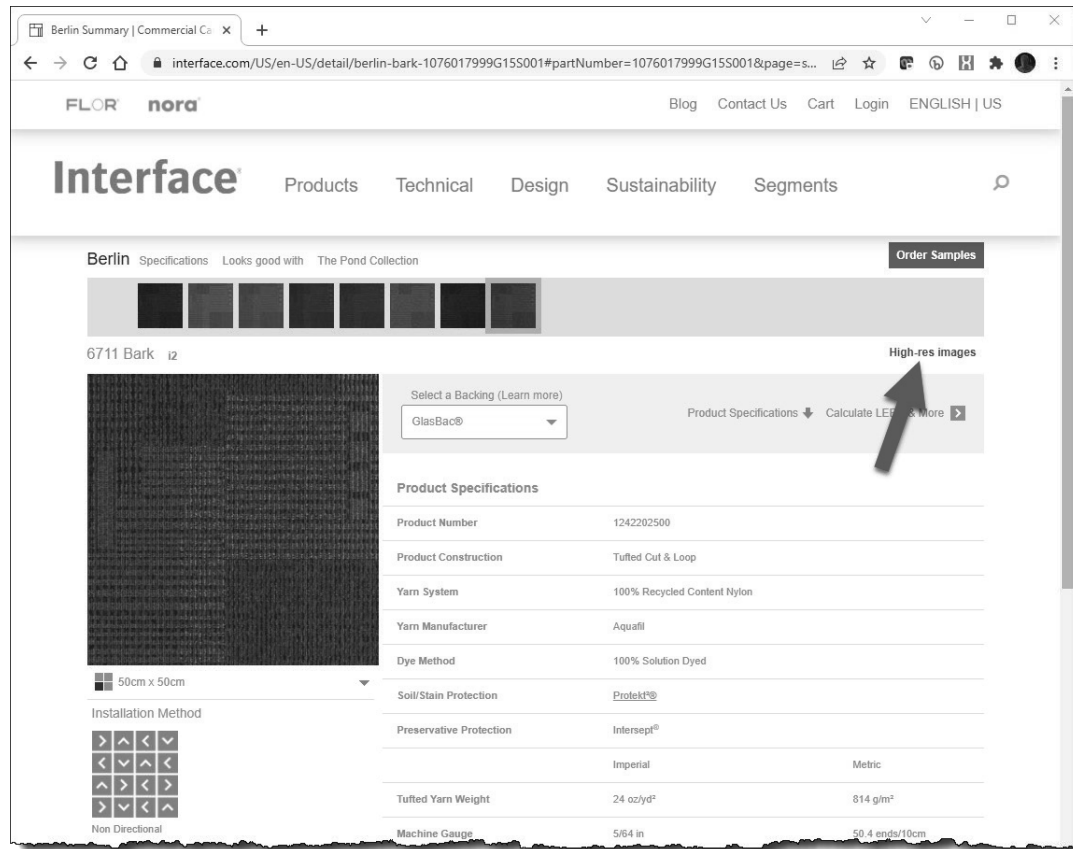

FIGURE 4-3.6 Interface Flor website - specific product page
You now have access to all the information you need to define the Revit *Material* (Figure 4-3.6).
17. Near the top of the screen, click **High-res Images** (Figure 4-3.6).